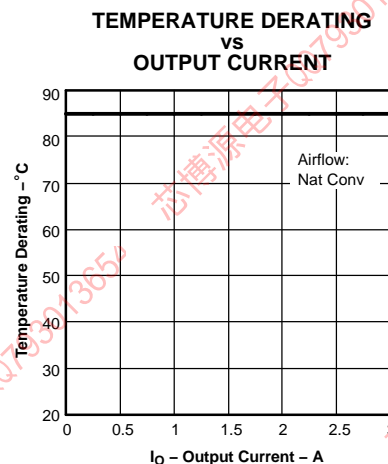

Figure 4.
- (2) The temperature derating curves represent the conditions at which internal components are at or below the manufacturer's maximum operating temperatures. Derating limits apply to modules soldered directly to a 100 mm x 100 mm double-sided PCB with 1 oz. copper. Applies to Figure 4.